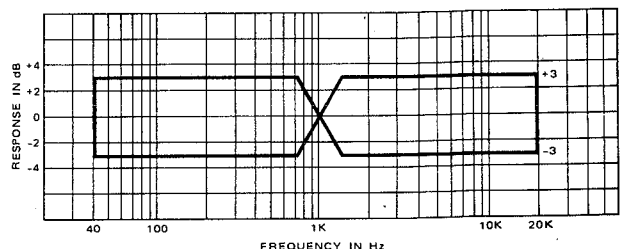

Fig. 7-35. Overall Frequency Response
3. Switch the OUTPUT SELECT switch to REPRO and record the test signal with the frequency varied from 40 Hz to 20 kHz. Read the reproduced output levels at the proper test frequencies during recording. Make sure the frequency response obtained is within the specified limit shown in Fig. 7-35.